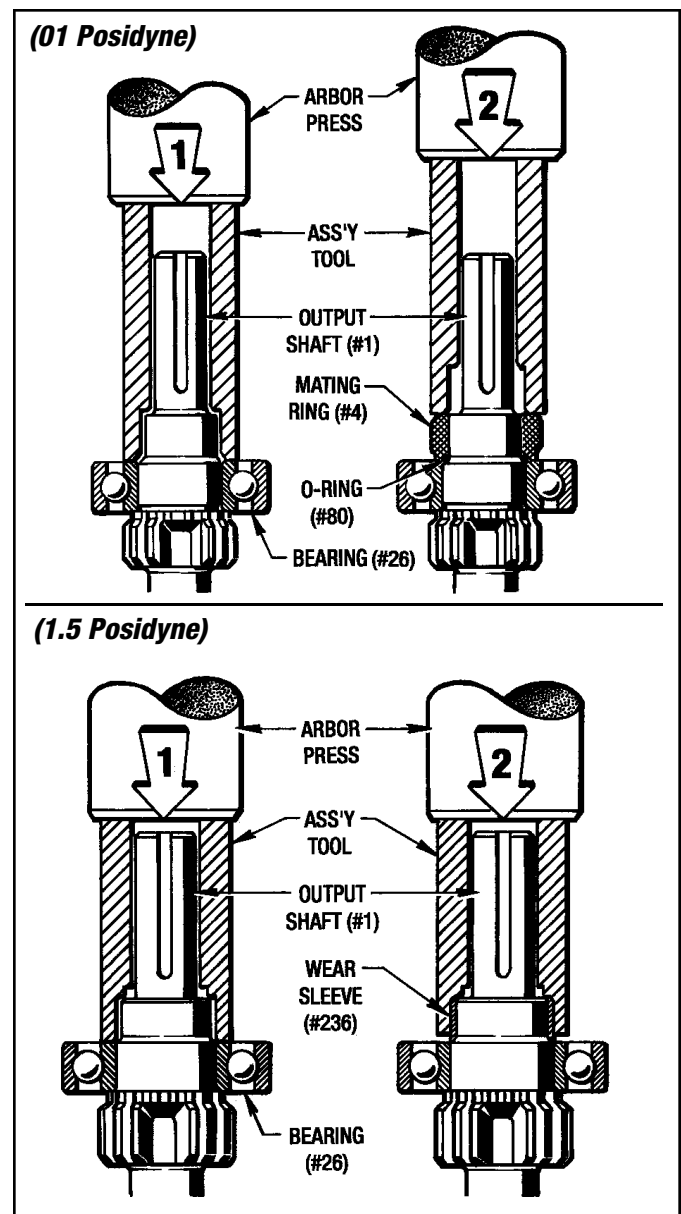

Figure 9.1 - Installing Bearing & Wear Sleeve/Mating Ring
1. With an arbor press and the proper Assembly Tool, press on the Bearing (#26). Install the O-Ring (#80) onto the Output Shaft shoulder. Then press the Mating Ring (#4) onto the Output Shaft (#1) as shown in Figure 9.1.
1. With an arbor press and the proper Assembly Tool, press the Bearing (#26) and then the Wear Sleeve (#236) onto the Output Shaft (#1) as shown in Figure 9.1.